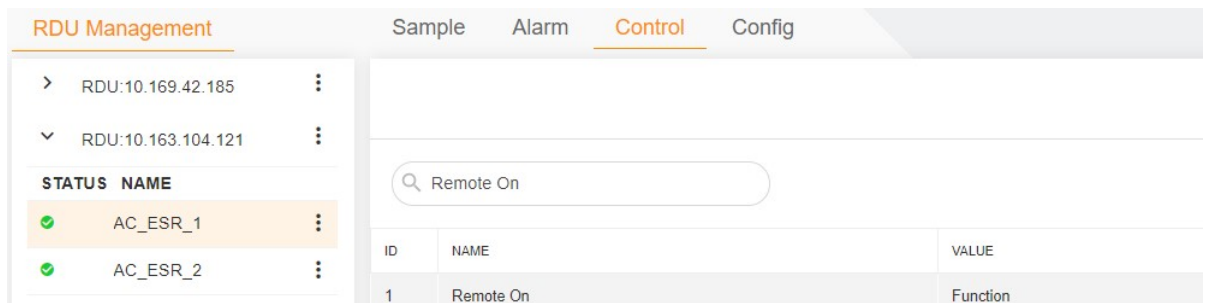

Figure 6-33 Control page
1. Click  on the rightmost of the control to be edited, and select **EDIT** (as shown in Figure 6-33).